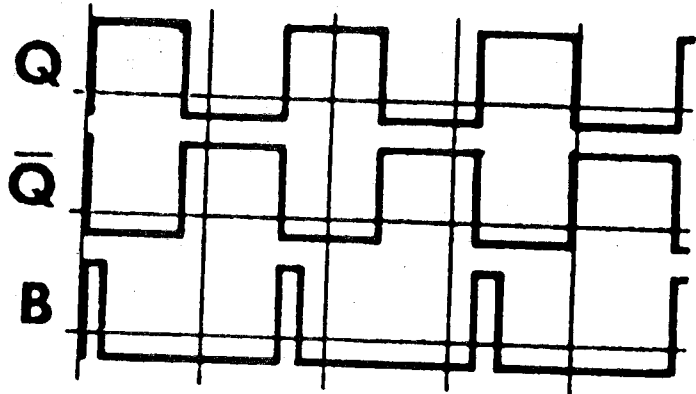

FIGURE 2
- A. Figure 2 represents a typical digital system with square wave as flip-flop output "Q" and "Q̄". "B" is generated each time "Q" goes positive. This relationship may be verified by connecting one input gate (white wire) to flip-flop "Q" and using the second input gate (other white wire) at "B" as follows:
1. Referring to Figure 2, connect one of the input gates (white lead) to "Q".